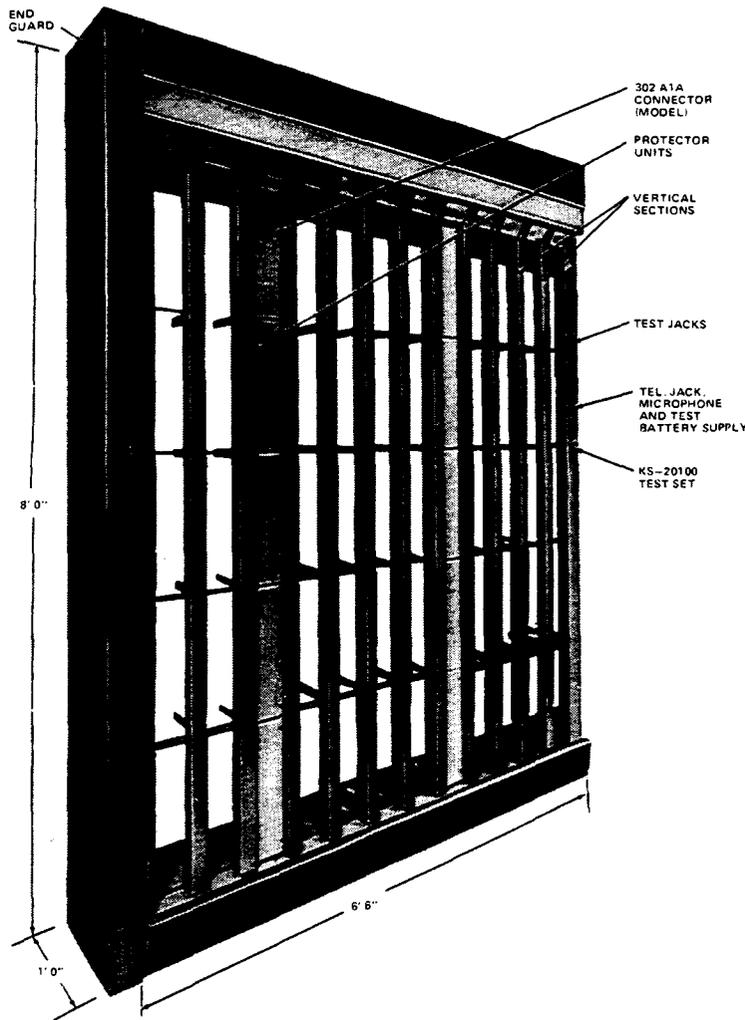

Figure 11—Modular Protector Frames — Front View (12 Verticals)
5.06 The modular protector frame for 302-type connectors (Figure 11) has been primarily used with earlier *ESS*[™] and *COSMIC* I-type modular DFs. Framework is available for additions to this PF as described in the following paragraphs. Note that the newer high density modular PF, which mounts 308-type connectors, is also compatible for additions.